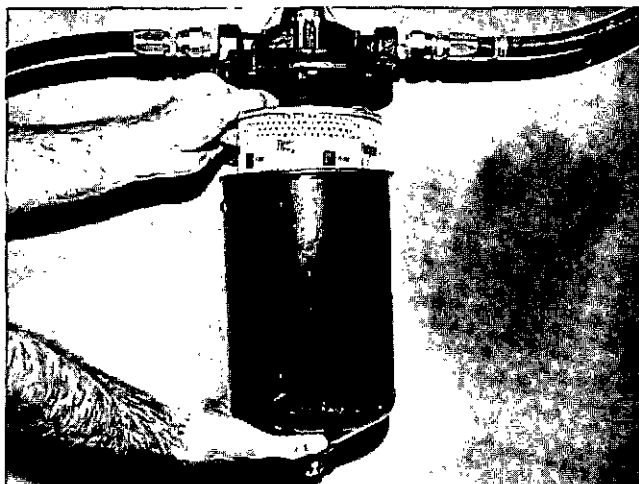

Fig. 5-11, V11910. Installing replaceable fuel filter element
2. Loosen bolt at top of fuel filter. Take out dirty element, clean filter case and install a new element, Fig. 5-11.